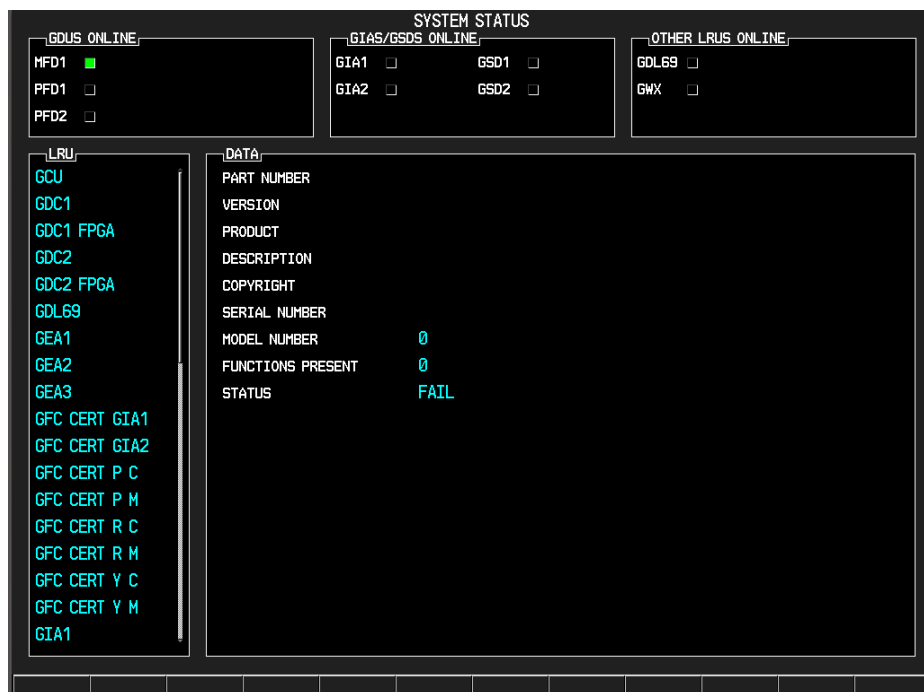

Figure 8-1. System Status Page (Configuration Mode)
1. Start the G1000 system in configuration mode. The System Status Page displays a list of LRUs in the LRU window (Figure 8-1).